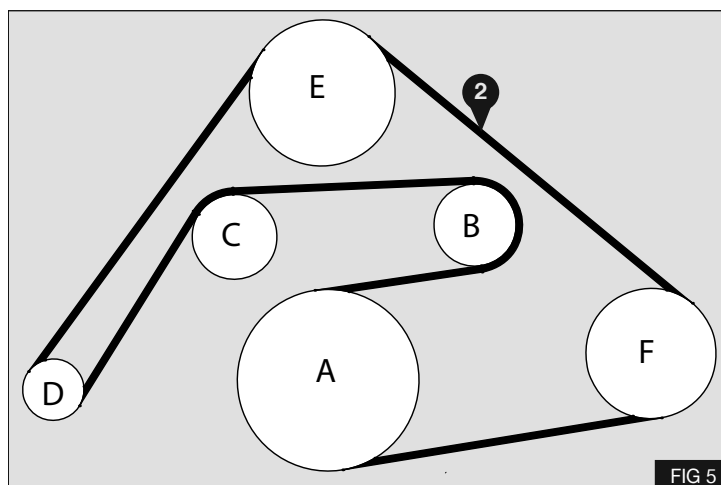

FIG 5
1. Fit the supplied drive belt ② as shown opposite – Fig 5